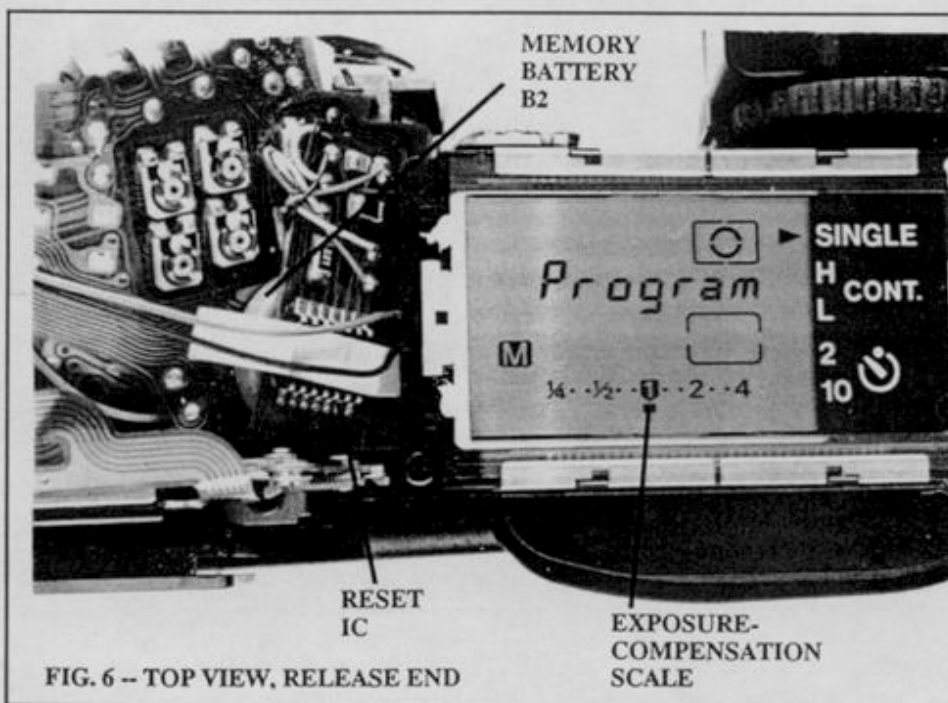
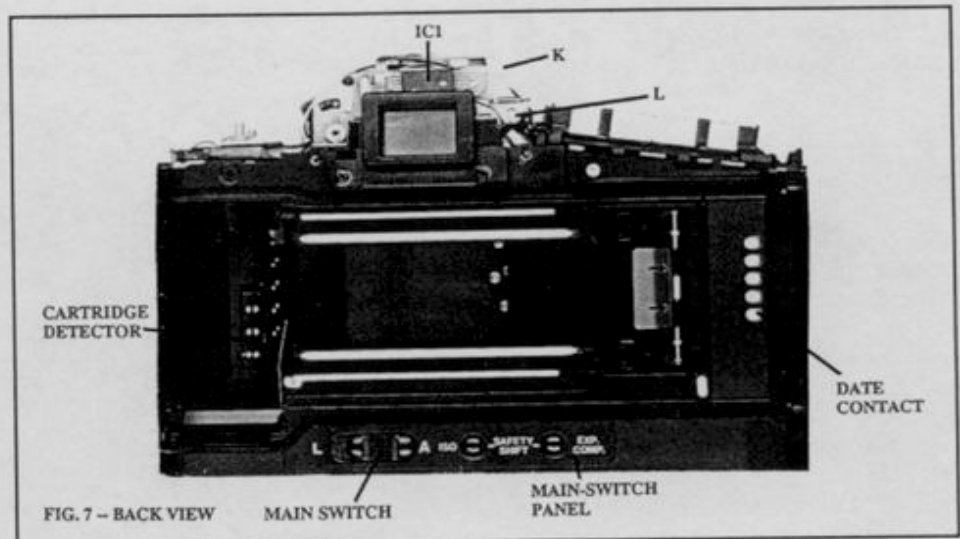

FIG. 6 -- TOP VIEW, RELEASE END
FIG. 7 -- BACK VIEW
- Fig. 6 -- top view, release end
Change the mode by shorting the date contact, Fig. 7, to ground. When you first set the camera to test mode, the f/stop LEDs show 03 (spot mode). If the LEDs don't read 03, short the date contact to ground until you get the 03 reading. The highest reading is 07; each time you short the date contact to ground, the number decreases one increment.
Note: The eccentric adjustments, Fig. 7, position the selective-area SPC to read from the partial-area circle at the center of the focusing screen. The adjustments should not be necessary unless you have replaced related parts (IC1, eyepiece-shutter assembly, pentaprism frame). To adjust, Canon uses a mask with a 12mm hole in the center. With the mask in front of the light box, you have a small source of light. Check as follows:
f. You should get the lowest reading with the light source in the center of the partial-area circle. If not, you can adjust the position of IC1, Fig. 7 -- K moves IC1 horizontally, and L moves IC1 vertically.
SW8. ISO switch on main-switch panel, Fig. 7. Connects to IC3 pin 12 through the pink wire, top rewind end of main flex, Fig. 28. When you close SW8, the external LCD shows the ISO setting. Hold SW8 closed and turn the dial switch to set a manual ISO.
SW9. Exposure-compensation switch on main-switch panel, Fig. 7. Connects to IC3 pin 13 through the brown wire, top rewind end of main flex, Fig. 28. Closing SW9 turns on the exposure-compensation scale, Fig. 6 (film loaded -- the exposure-compensation scale remains on with no film). Hold SW9 closed and turn the dial switch to set an exposure compensation.
SW16. Main switch on main-switch panel, Fig. 7. Connects to IC3 pin 22 through the light-blue wire, top rewind end of main flex, Fig. 28. Turns on, light-blue wire to ground, with the main switch in the A position to allow operation.
SW21. Cartridge-display switch. In DX block, accessible at front of camera, Fig. 4. Connects to IC3 pin 28 through the gray wire, top rewind end of main flex, Fig. 28. SW21 opens when the film cartridge pushes in the cartridge detector, Fig. 7, to enable the film advance (if the back-cover switch SW22 is also open). When SW21 opens, the external LCD turns on the cartridge symbol.